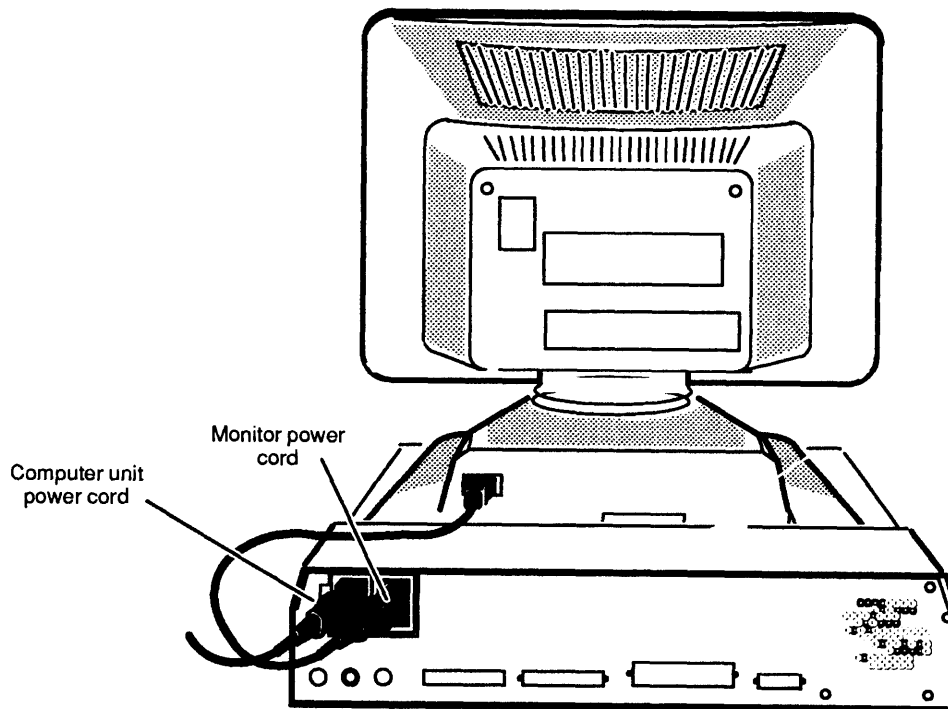

Figure 2-20 Connecting the Computer Unit Power Cord
2. Plug the female end of the power cord into the leftmost ac connector on the computer unit, as shown in Figure 2-20.